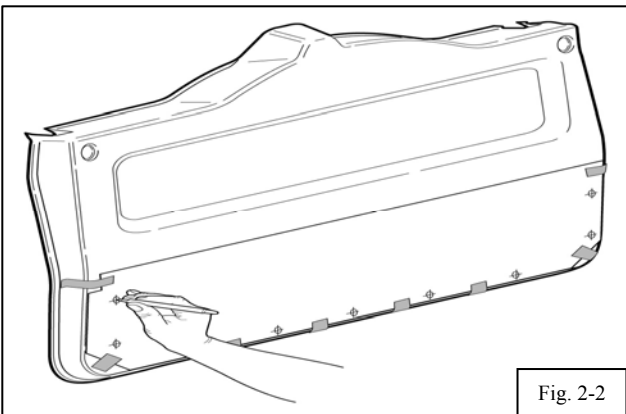

Fig. 2-2
- (c) Use tape at locations indicated on the template to hold the template in place. (Fig. 2-2)
- (d) Use center punch to mark the centers of the (9) holes. (Fig. 2-2)